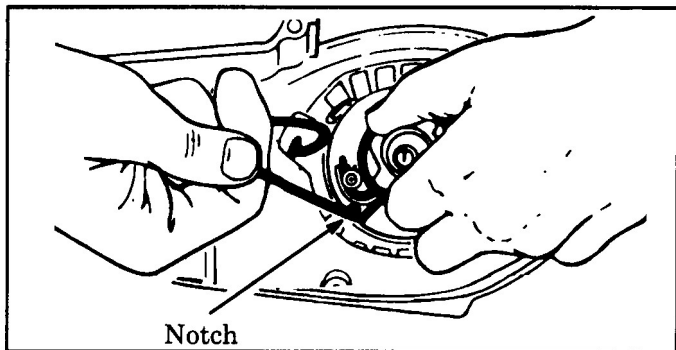

Figure 41
19. Pull out 10 inches of rope and set the rope in the notch in the pulley. Figure 41.